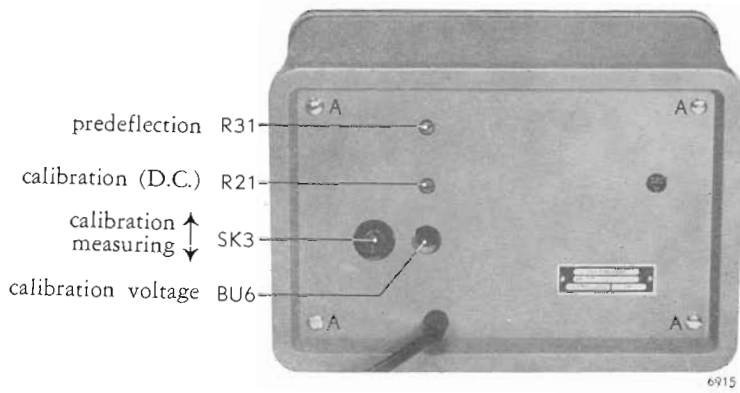

Fig. 2. Back view
1. Remove the 4 screws "A" (Fig. 2) and remove the rear wall.